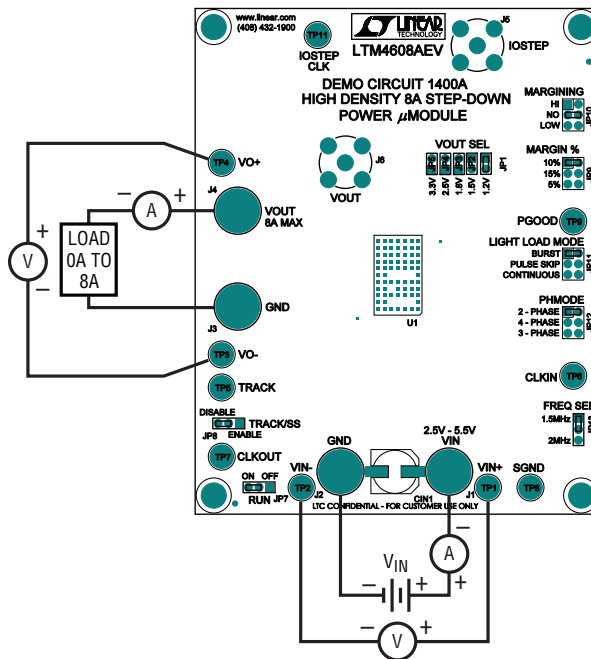

Figure 1. Test Setup of DC1400A
Demonstration circuit DC1400A is an easy way to evaluate the LTM4608AEV. Please refer to Figure 1 for proper measurement equipment setup and follow the procedure below:
- With power off, connect the input power supply, load and meters as shown in Figure 1. Preset the load to 0A and input power supply between 2.5V to 5.5V.